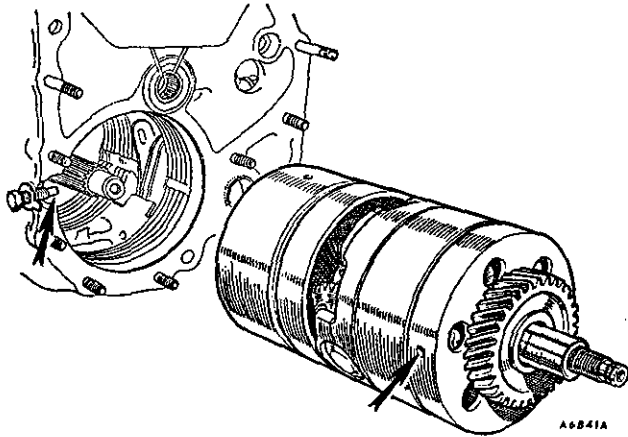
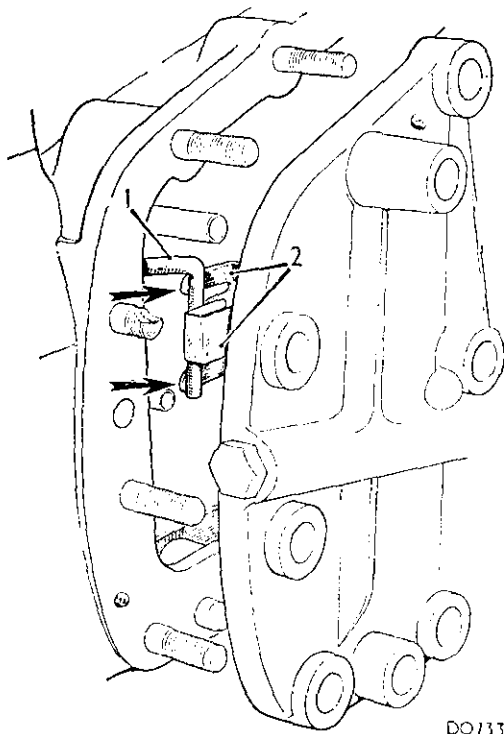

Fig. Fa. 11
Fig. Fa.21
*Removing the auxiliary oil pump strainer (1) and pipe (2), with (3) the outlet pipe, and (4) the forward clutch apply pipe*
- (8) Remove the set screw and lift out the auxiliary pump filter.
- (9) Remove Service tool 18G 1097 and withdraw the forward clutch from the casing.
- (10) Withdraw the forward output shaft and tap out the reverse shut-off valve. Insert the dummy output shaft Service tool 18G 1093 or 18G 1093 A.
- (11) Slacken off the servo band adjusters.
- (12) Remove the dowel bolt (Fig. Fa.11) and remove the gear train which includes the top and reverse clutch with its Torrington needle thrust bearing and steel washer, and the first gear free-wheel assembly.
- (37) Refit the auxiliary pump and governor assembly and engage the valve block linkage with the later-type governor unit as shown in Fig. Fa.21, also ensuring correct alignment with the oil pipes and the forward shaft. The plastic sleeve fitted over the rings on the shaft is for assembly purposes, and will become safely displaced along the forward clutch shaft. Tighten the securing nuts to the torque figure given in 'GENERAL DATA'.
- (38) Remove the forward clutch retainer—Service tool 18G 1097.
- (39) Refit the top and reverse clutch hub washer and the Torrington needle thrust bearing into position with grease.
- (40) Ensure that the top and reverse clutch friction plates are free to drop before refitting the gear train assembly into the transmission. Correctly position the second, third, and reverse gear bands in the case and refit the gear train, using hand pressure only to push it into position. Quick rotation of the input gear will assist in engaging the top and reverse clutch friction plates. When correctly reassembled the dowel bolt will engage easily in the freewheel support (Fig. Fa.11).
- (41) Refit the dowel bolt with a new lock washer.